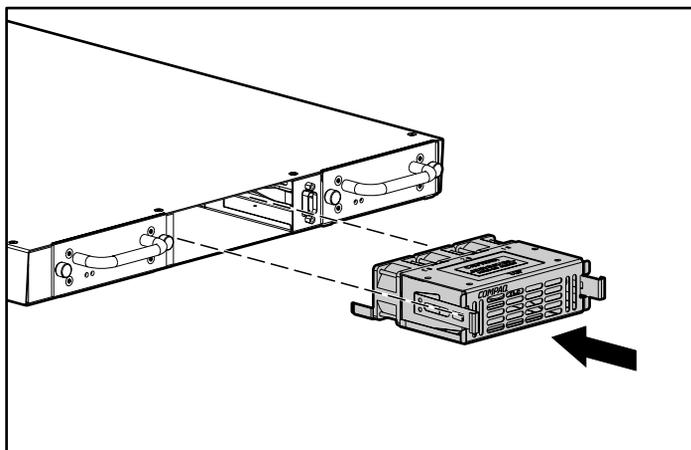

Figure 7-5: Installing a fan module
3. Insert the new fan module into the fan bay, using the orientation shown in Figure 7-5. Push the module into position until the fan latches lock into place.